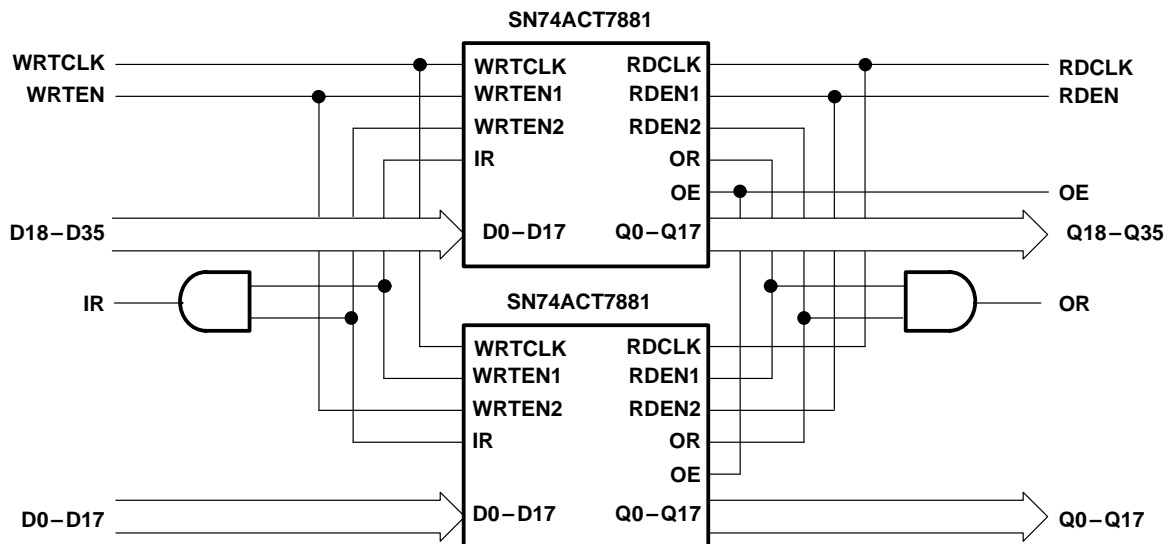

Figure 10. Word-Width Expansion: 1024 Words × 36 Bits
Figure 10 shows two SN74ACT7881 devices in word-width expansion. Word-width expansion is accomplished by simply connecting all common control signals between the devices and creating composite input-ready (IR) and output-ready (OR) signals. The almost-full/almost-empty flag (AF/AE) and half-full flag (HF) can be sampled from any one device. Word-depth expansion and word-width expansion can be used together.